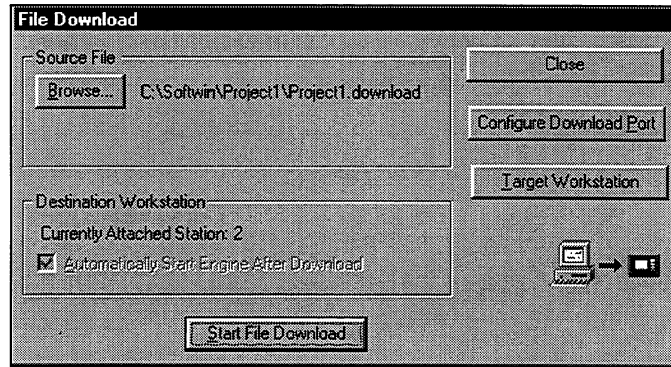

Figure 12-3. File Download Dialog Box
1. Select the Download command on the Tools menu or click on the Download button to access the File Download dialog box, as shown in Figure 12-3.